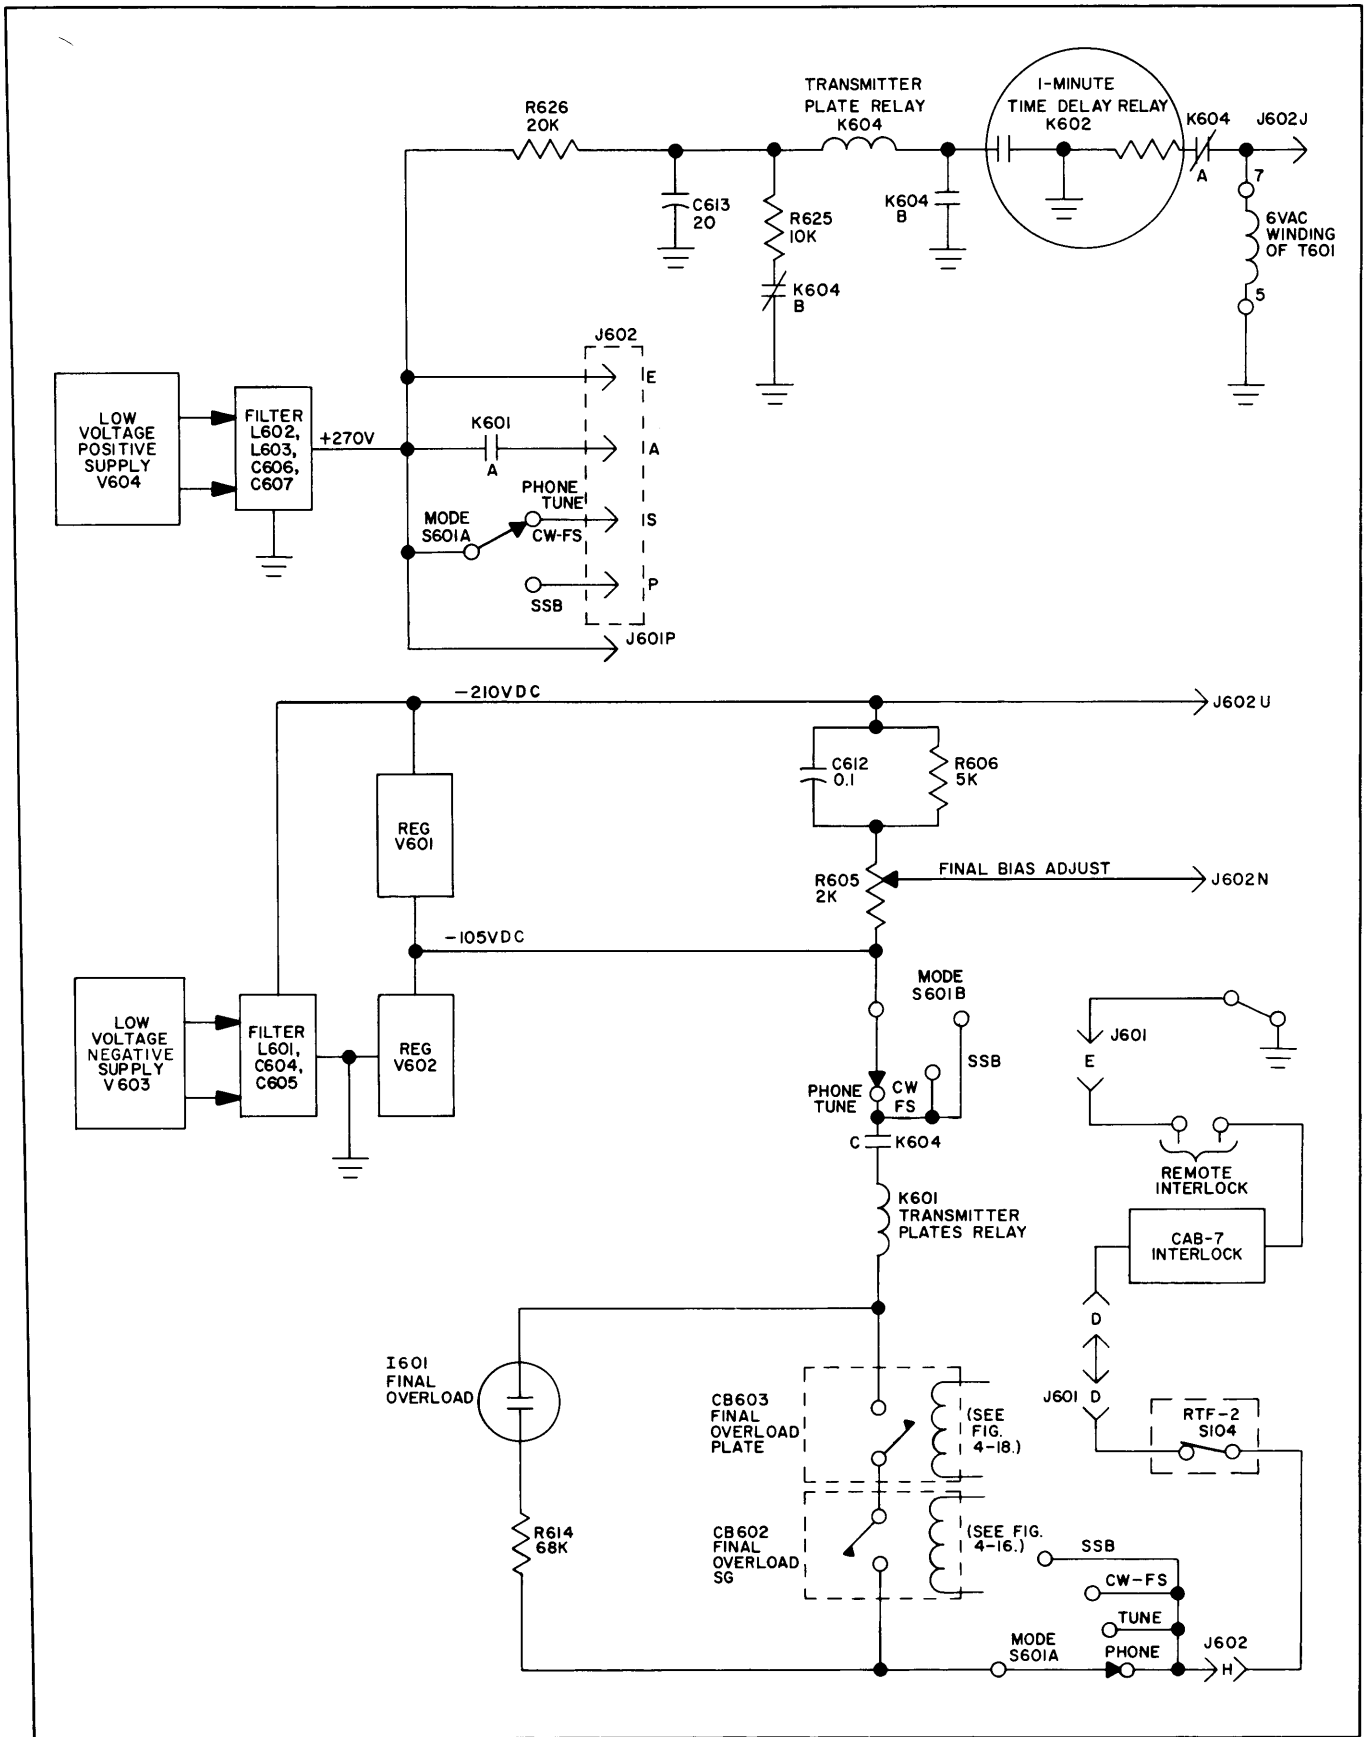

Figure 4-13. Low-Voltage Supply Distribution, Simplified Schematic Diagram
(b) The filtered output of the positive low voltage supply (figure 4-13) is applied through pin E of J602 to the grid circuit of V202 in the RTF-2 and through contacts (A) of K601 (when K601 is energized) to the plate circuits of the following tubes in the RTF-2: V201, V204, V402, V403, V404, V405, V406A, V406B, and through regulator V401 to V301 and V302. This voltage is also applied, in the RTF-2, to the cathode circuit of V202. During the first 60 seconds that primary power is applied, the low-voltage output is impressed, through normally closed contacts (B) of relay K604, across resistors R626 and R625.